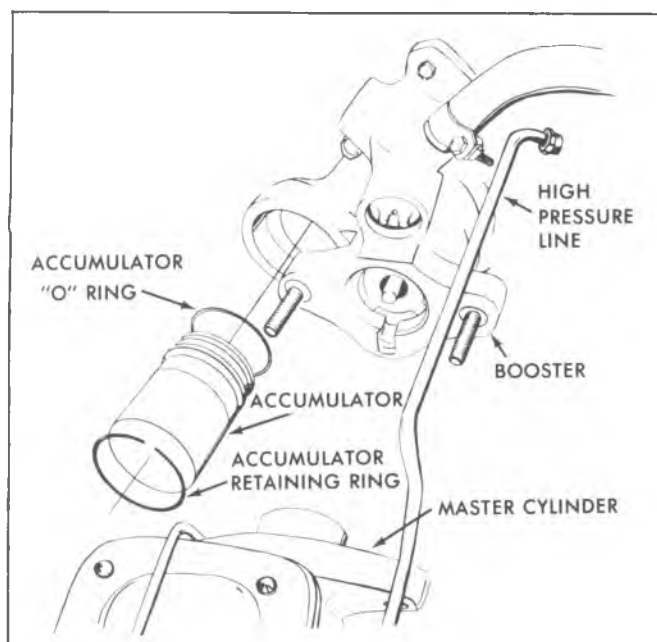

Fig. 5-7E-Accumulator Installation
16. Using clean power steering fluid, lubricate accumulator seal. Install seal and accumulator in housing and then place the retaining ring over the accumulator (fig. 5-7E). Place Tool J-26889 over accumulator.